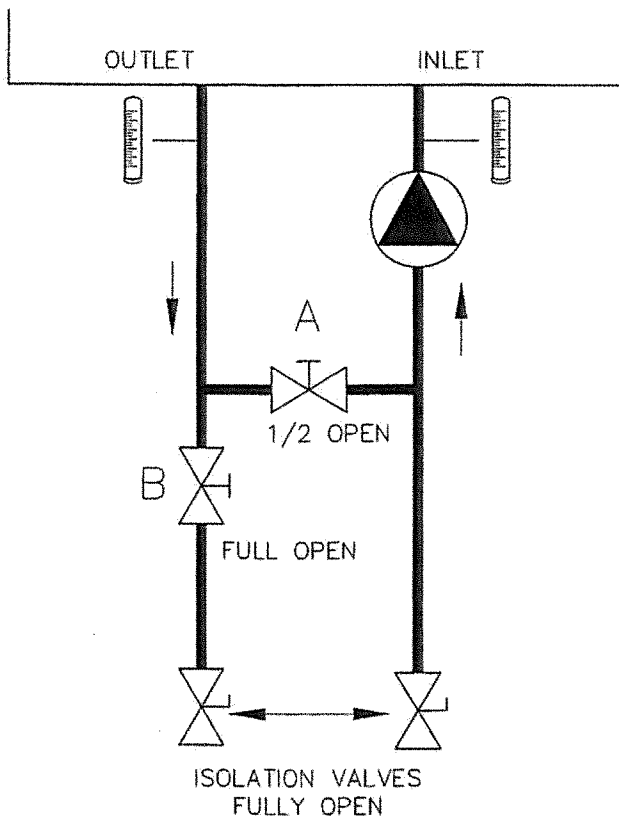

Fig. 14: "H" Bypass Setting
Three-way valves intended to regulate system water temperatures by reducing flow in the boiler should not be used. Raypak heaters are high-recovery, low-mass heaters which are not subject to thermal shock. See Fig. 14 and instructions on page 17 for adjusting the manual bypass.
3. With the heater operating at 100% firing rate, set Valve A (the bypass) to ½ open position, and Valve B to fully open position. See Fig. 14.